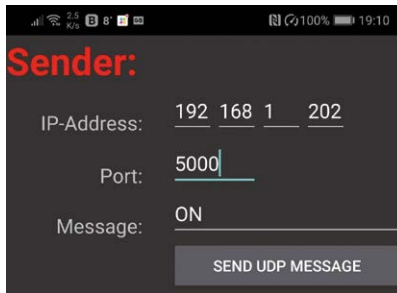

Figure 9.5 Enter ON to turn ON the LED
- Enter message **ON** and click SEND UDP MESSAGE as shown in Figure 9.5 and you should see the LED to turn ON